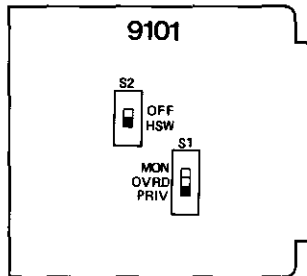

figure 5. Switch locations
3.05 Two option switches must be set before the 9101 is placed into service. Locations of these switches on the module are shown in figure 5. Switch S1 is used to select the mode of automatic exclusion